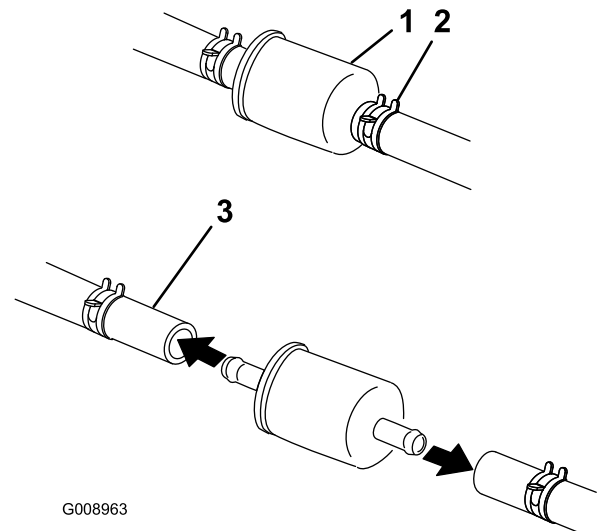

Figure 45
5. Squeeze the ends of the hose clamps together and slide them away from the filter (Figure 45).